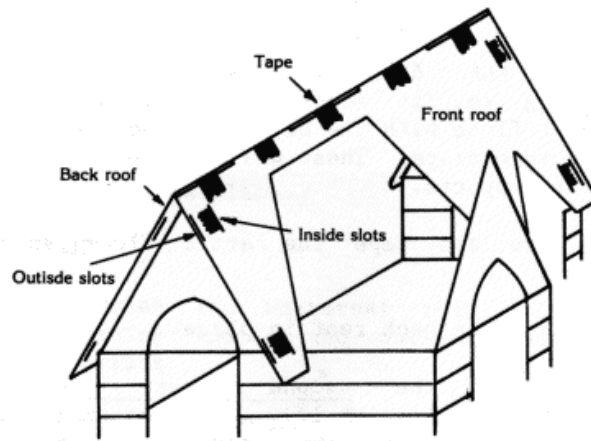

FIGURE 38
6. Stick a piece of tape on each gable tab. **Glue all roof parts in place except the back roof, wait until the attic floor has been installed.** Tape the back roof to the back side of the gables by feeding the tape through the inside slots and taping the roof into place. Repeat the process for the front roof. Interlock the tops of the front and back roof pieces. Glue and tape together. Figure 38.